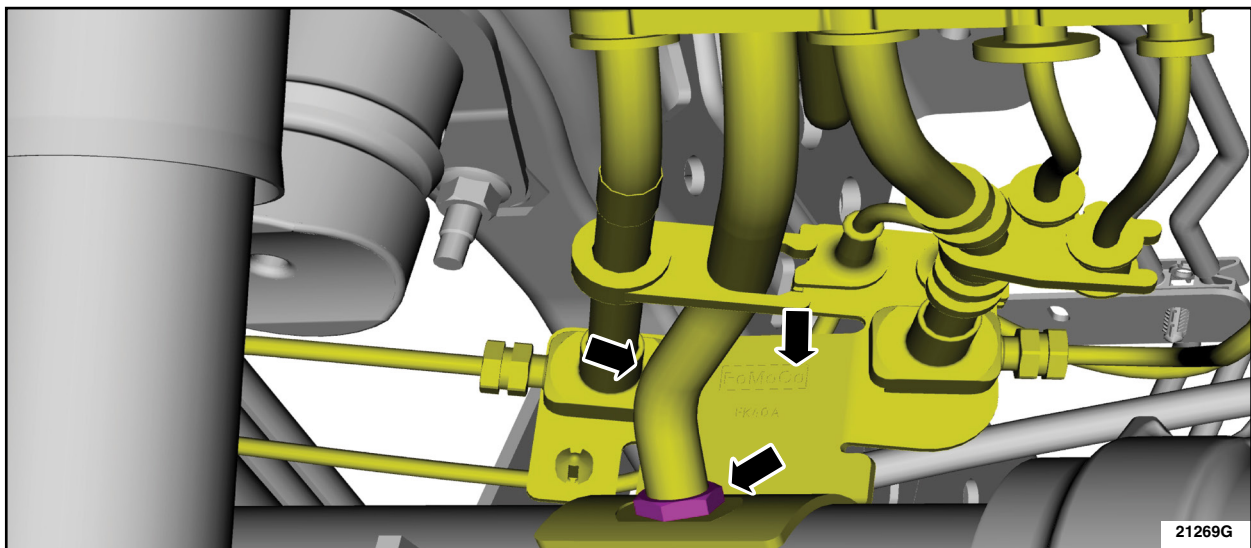

FIGURE 4
3. Disengage the rear axle housing assembly vent hose. Remove the brake line bracket bolt and position the brake line bracket assembly aside. See Figure 4.